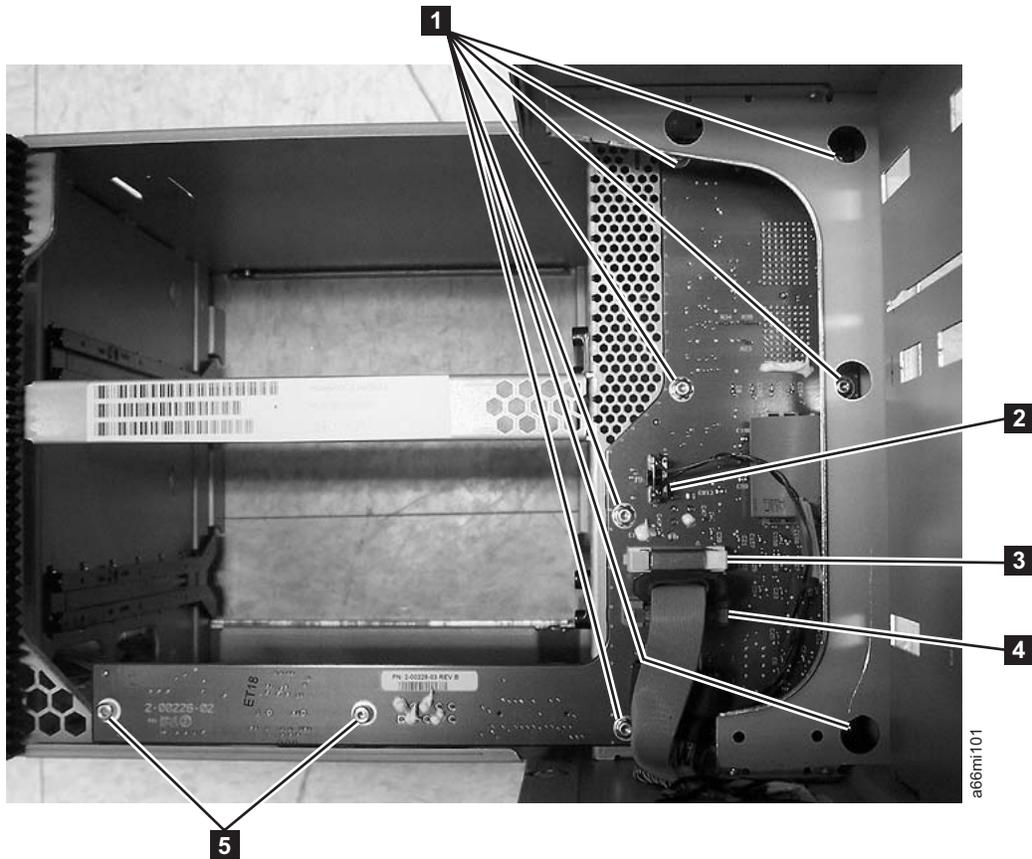

Figure 8-62. Backplane Connector Board (BCB), Front View
- c. Unplug cable connectors J9 (see **2** in Figure 8-62 on page 8-65), J16 (see **3** in Figure 8-62 on page 8-65), and J15 (see **4** in Figure 8-62 on page 8-65) from the BCB.
- a. Remove the 2 T8 Torx shoulder screws ( **5** in Figure 8-62 on page 8-65) holding the lower part of the BCB.
- b. Remove the 7 T10 Torx screws ( **1** in Figure 8-62 on page 8-65) holding the remainder of the BCB.
**Tip:** When installing the new BCB it is easier to start the board mounting screws (**1** and **5** in Figure 8-62 on page 8-65) if you first stand the control module enclosure on end.